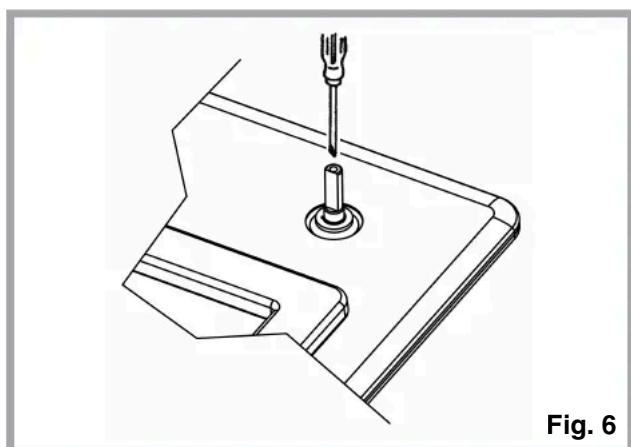

Fig. 6
- to adjust to the minimum, use a screwdriver on the screw placed on the tap (Fig. 6) after turning the tap to its minimum position. For LPG (butane/propane) screw tight